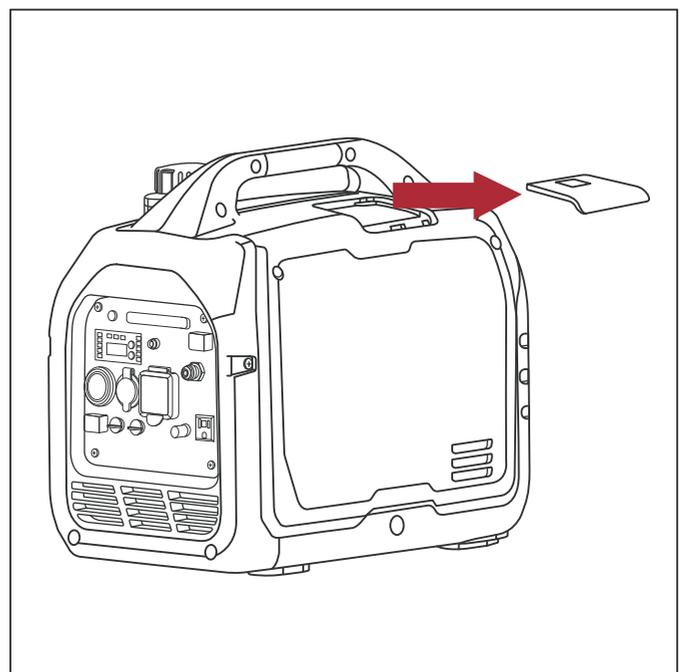

Fig.28
- 3 Slide the spark plug access cover off the housing (see **Fig.28**).